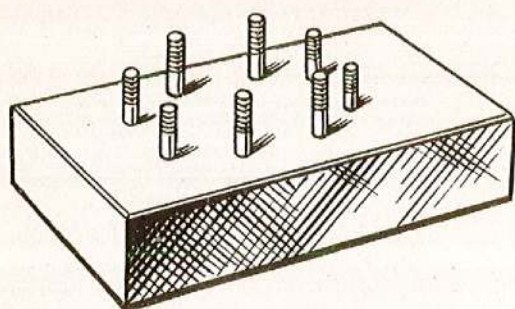

Fig. 18. Amplifier valve assembly jig
49. It is recommended that a jig be made locally for assembling the amplifier valve. This jig is illustrated in fig. 18 and dimensions are given in fig. 2.